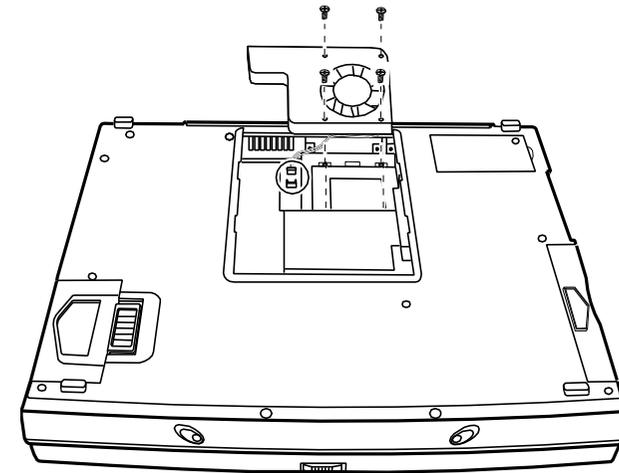

Figure 5-14. Removing the Fan Assem
2. Place the fan assembly on top of the CPU. Plug in the power cord and secure the fan assembly with four screws. (Refer to Figure 5-14 earlier.)